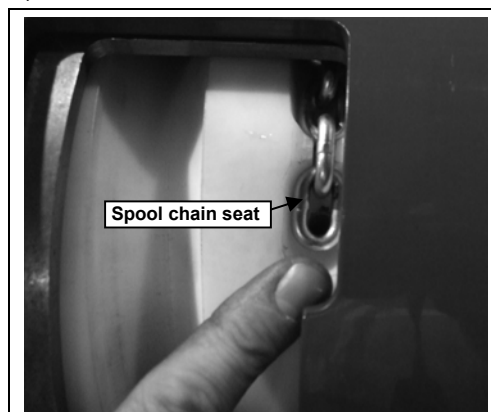

Figure 4-15
Step 12. Remove the wire from the chain and tap the chain into the spool chain seat. (See Figure 4-15)